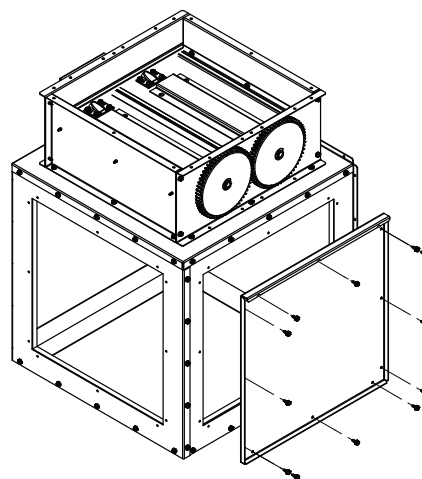

Fig. 2 - Panel Removal
5. To relocate and/or re-orient one or both dampers, first remove the screws around the perimeter of the existing panel(s) identified for the new location of the Damper Assembly and set aside (Fig. 2).